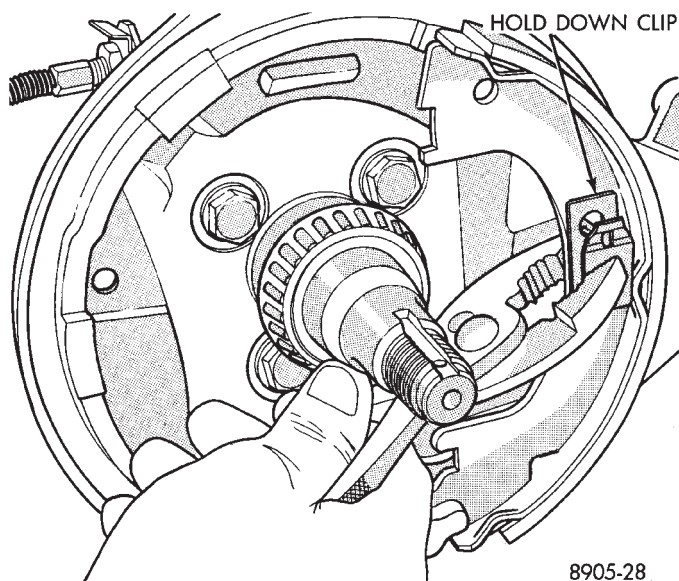

Fig. 6 Installing Rear Shoe and Hold-Down Clip
(1) Install rear parking brake shoe and holddown clip (Fig. 6).